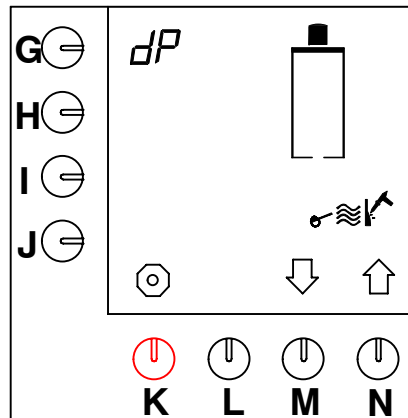

Fig. 15 Starting the descaling programme coffee-making system
- The descaling programme appears on the display (fig. 15).
- Hold programming key (G.) down until fig. 15 re-appears on the display.